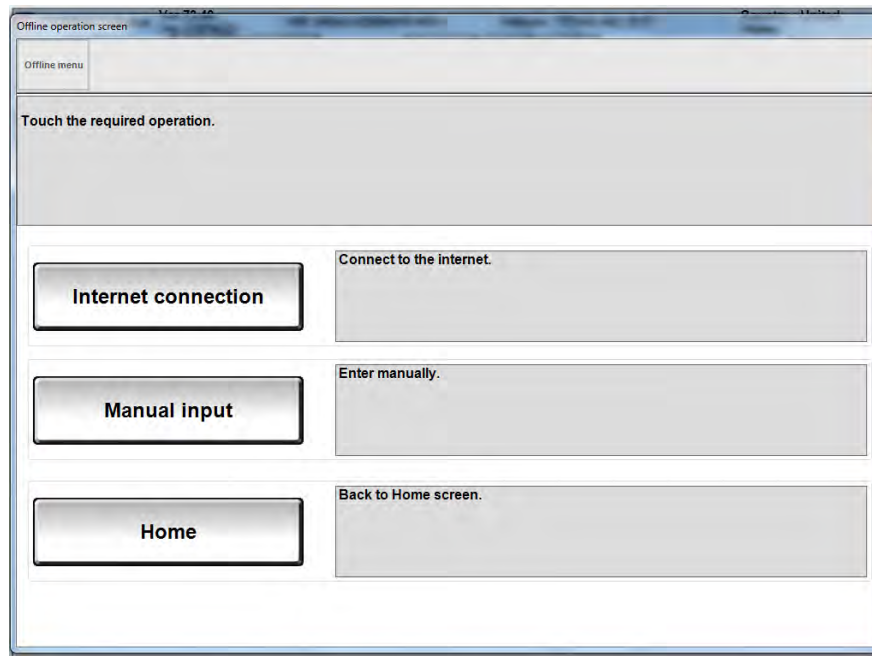

Figure 18
- If the CONSULT PC is not connected to the internet, the screen in Figure 18 will display.